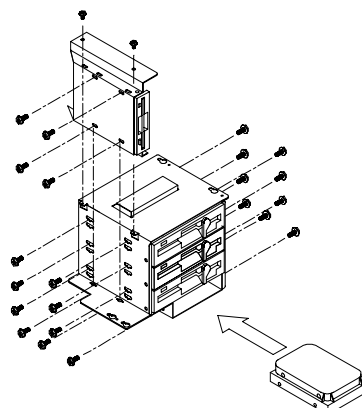

Figure 2-3: Inserting the drives into the drive bay
3. Remove the cover to the drive bay front and insert the drives into their proper locations in the drive bay. (See Fig. 2-3)